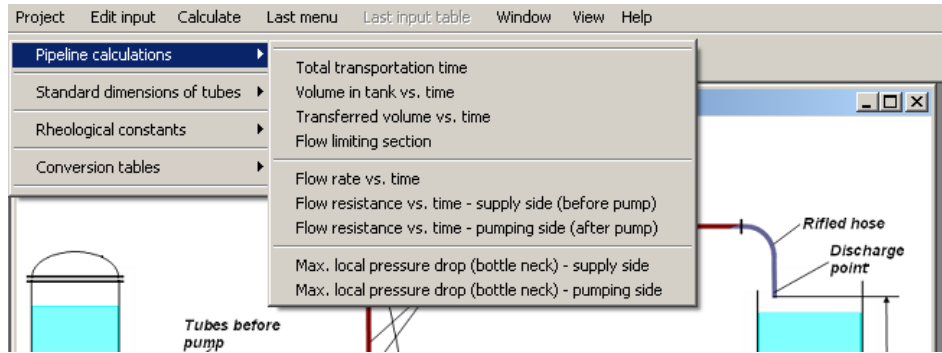
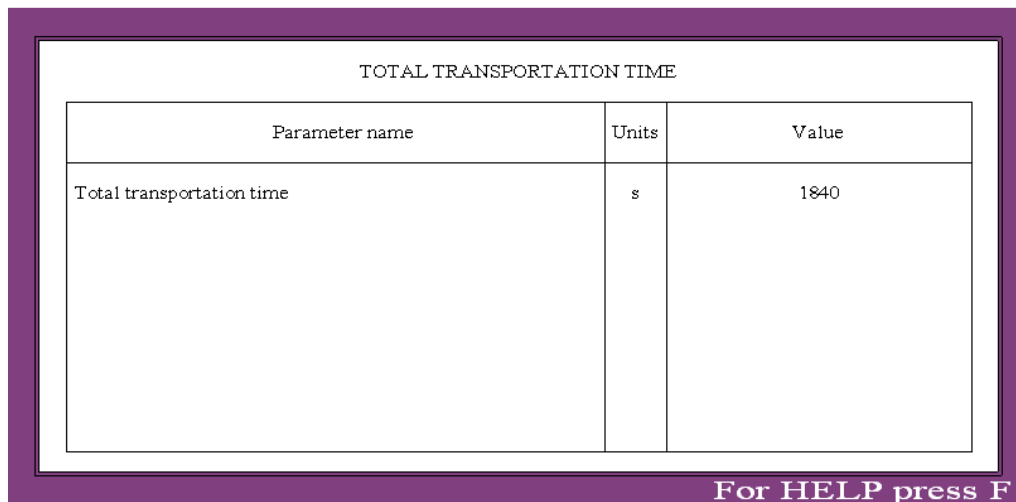
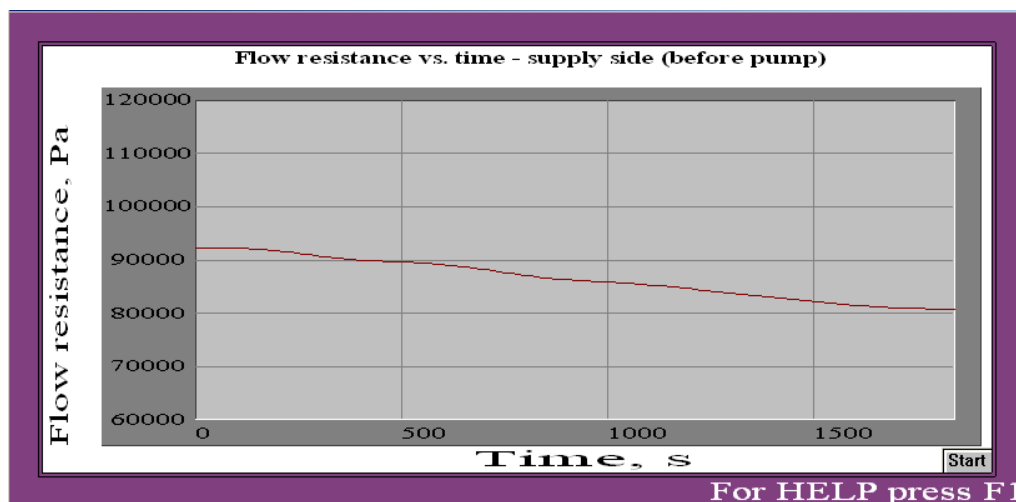
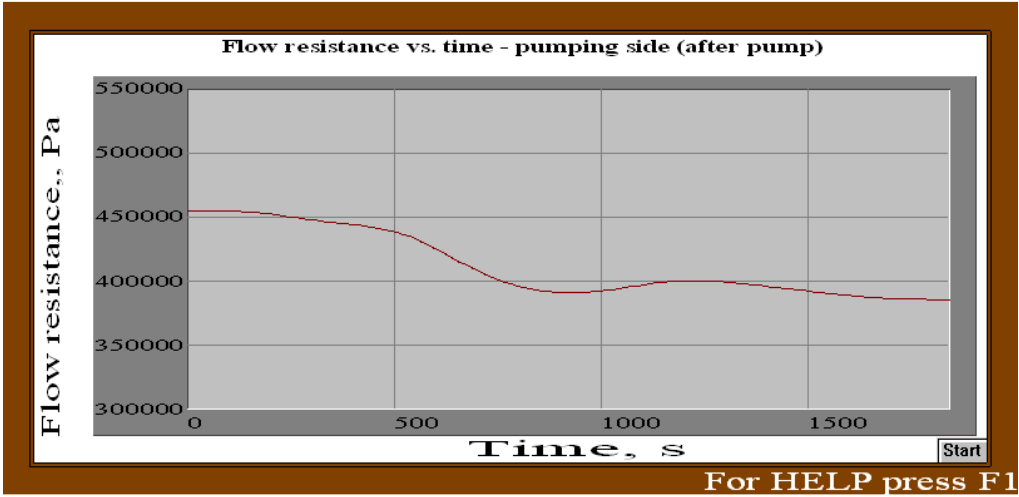

Figure 21.
Figure 22.
Figure 23.
Figure 24.
3.1. In order to perform calculations, click **Calculate** in the main menu and select **Pipeline calculation>Total transportation time** (Figure 21).
Result of calculation arrives in a table form (Figure 22). The next step – calculation of pressure drop via **Last menu>Flow resistance vs. time – supply side** and **Last menu>Flow resistance vs. time – pumping side** (Figure 21). Results of calculations arrive as graphs (Figures 23 and 24).
As follows from the data on Figure 22, transfer of shampoo can be performed within reasonable time – about 30 min. However, as it follows from the data of the Figure 24, the maximum pressure in the pipeline section after pump will be relatively high – about 4.5 Bar. Accordingly to handbook data, the maximum pressure in riffled PVC 1 ½ in hoses must not be higher then 3 Bar.